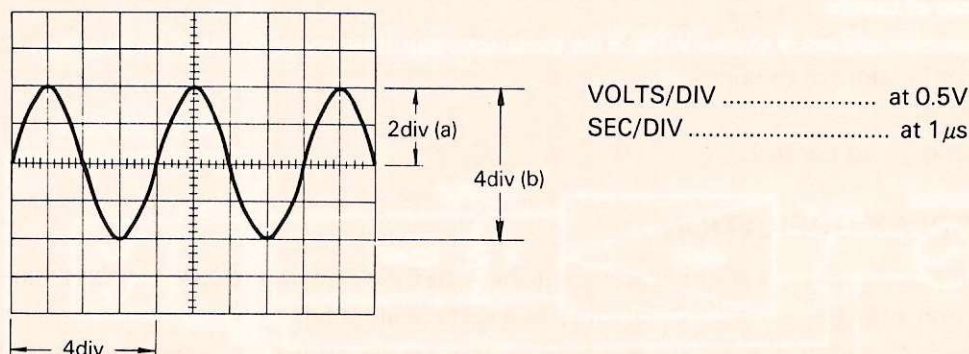

Fig. 3 Voltage and frequency measurement
Initially, set the VARIABLE knobs of VOLTS/DIV and A SEC/DIV switches ⑪ and ⑫ to the CAL positions. An example is shown in Fig. 3.
From Fig. 3:
$$\text{For the waveform in Fig. 3, frequency} = \frac{1}{1 \mu\text{s} \times 4 (\text{div})} = \frac{1}{4 \mu\text{s}}$$